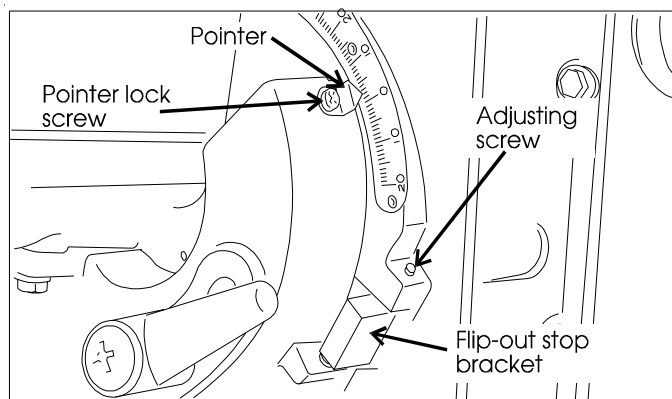

Figure 19: Using an adjustable square to check and set miter slot parallelism on the belt table.
3. Place a scale or adjustable machinist's square against either the left or right edge of the belt or platen and measure the distance to the miter slot edge (See Figure 19).